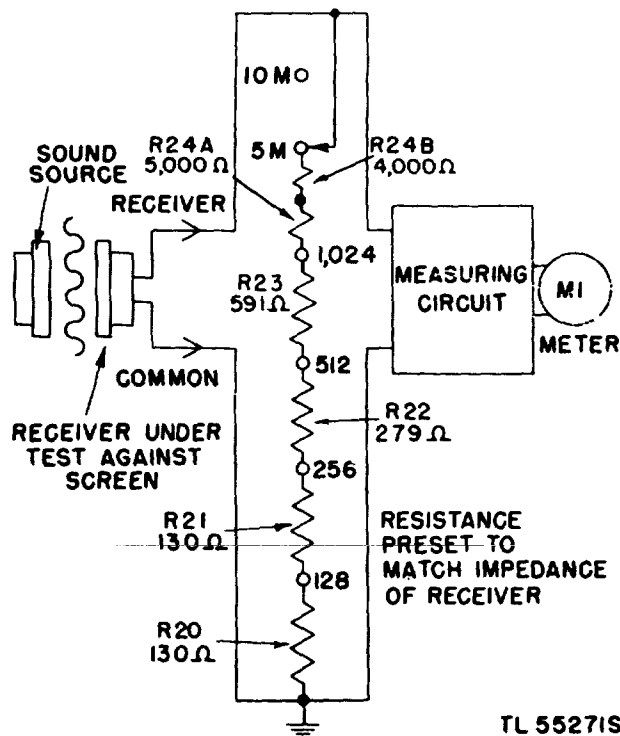

Figure 24. Schematic diagram of test circuit for receivers and magnetic-type microphones.
e. RECEIVERS AND MAGNETIC-TYPE MICROPHONES (fig. 24). The relative efficiency of receivers is usually determined on the basis of acoustic pressure delivered to an equivalent ear cavity when a specific source of electric power is supplied to a receiver. With Test Set I-142-(\*), receivers are tested in the same manner as magnetic microphones. They are rated on the basis of the electrical power delivered for a given acoustic input. Although the response frequency characteristic of the receiver measured with the diaphragm open to the air differs appreciably from that obtained with the diaphragm operating in a closed cavity coupler, the results obtained in the two tests correlate for a given receiver structure. The output requirements for Test Set I-142-(\*) are based on empirical measurements on various types of receivers correlating with the efficiency measured on the standard artificial ear system. Resistive loads are provided in the test set to match impedances of 128, 256, 512, 1,024, 5,000, and 10,000 ohms for testing receivers and magnetic-type microphones.